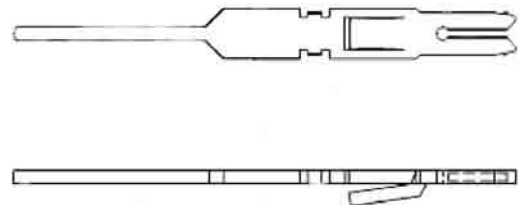

Figure 2. Solderless Wrap Tail Contact
34. **Wrap-post Contacts.** Wrap-post contacts are used for solderless wire wrapping, which is a reliable method for making point to point mechanical and electrical connections between wires and terminals. Wire wrapping may be used in any application where low-cost wiring is used. See Figure 2.